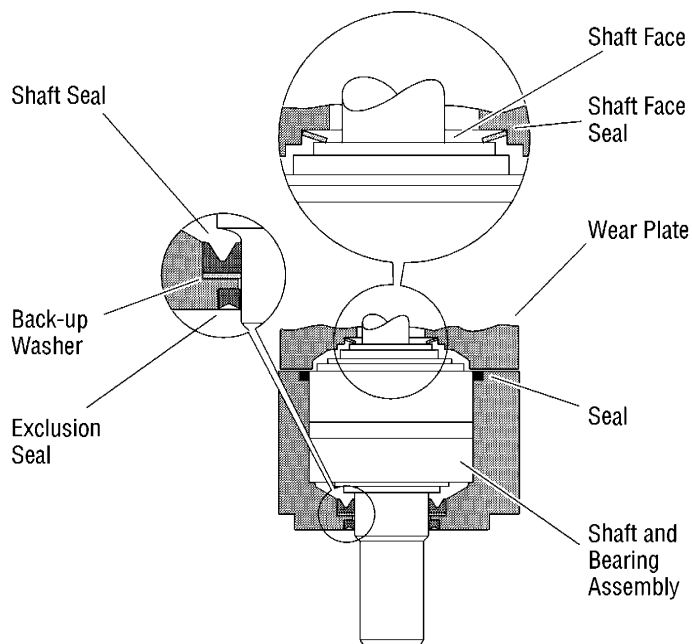

Figure 11
**21** Use a press to install exclusion seal in outer bore of bearing housing. Lip of seal must face outward. See Figure 11. If a press is not available use a plastic or rubber hammer, being careful not to damage or cock seal in the bore.
**27** Install the shaft face seal in the wear plate as shown in Figure 11. Do not distort seal.
**28** Install the wear plate, see Figure 11.